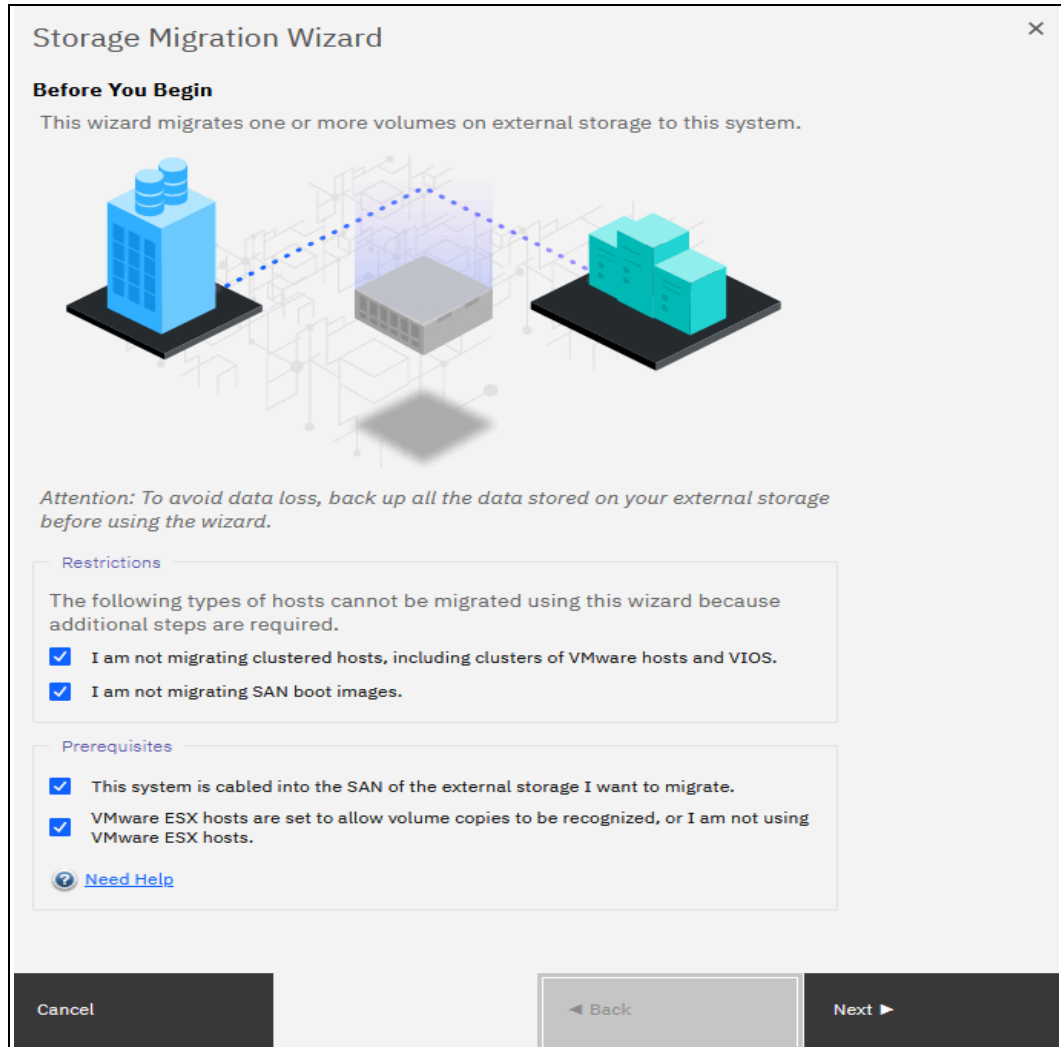

Figure 8-4 Restrictions and prerequisites confirmation
4. When the wizard starts, you are prompted to verify the restrictions and prerequisites that are listed in Figure 8-4 on page 491. Address the following restrictions and prerequisites:
If all restrictions are satisfied and prerequisites are met, select all of the options and click **Next**, as shown in Figure 8-4.